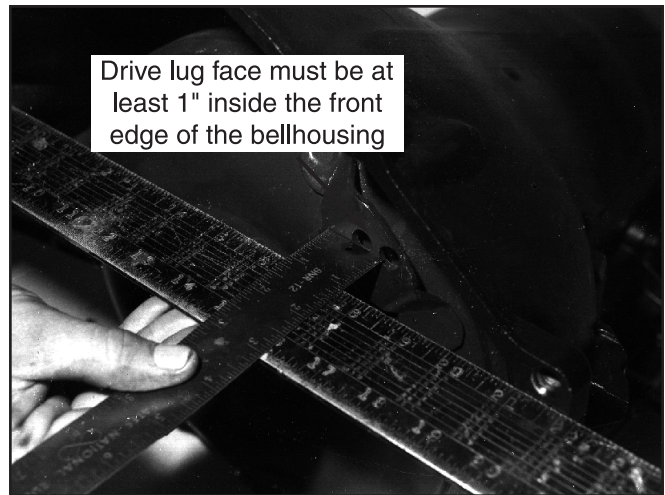

Figure 2
STEP 17. Install B&M torque converter onto transmission. Push and rotate the converter to engage input shaft, reaction shaft and oil pump rotors. Place a straight edge across the face of the transmission bellhousing. Measure the distance from the face of the bellhousing to the face of the torque converter drive lug. The drive lug must be at least 1" inside the bellhousing. (see fig. 2) A measurement of less than 1" indicates the torque converter is not fully engaged in the transmission. Continue to rotate and turn the converter to obtain full engagement. If you install the transmission without full converter engagement, you will damage the pump.